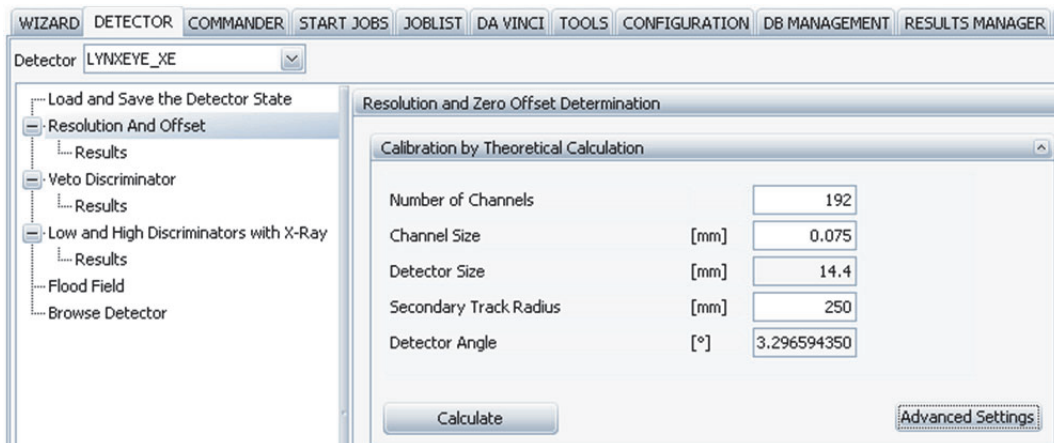

Figure 6.35: Calculate the 'Calibration of the Theoretical Position'
- Calculate the 'Calibration of the Theoretical Position' and apply it, see Figure 6.35. Click on the 'Advanced Settings' tab to activate the input fields. Use the default values and change the secondary track radius if necessary, do not alter other values. Press 'Calculate'.